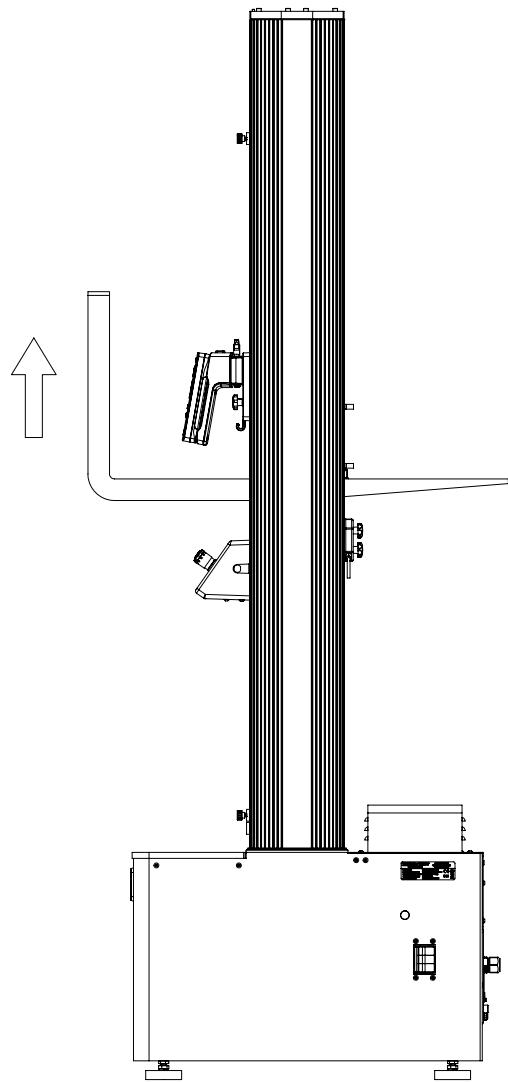

Figure 22. Lifting the Frame from the Crosshead
1. Using a forklift with padded forks or protective material around the crosshead, carefully insert the forks under the crosshead between the columns. See Figure 22 on page 75.